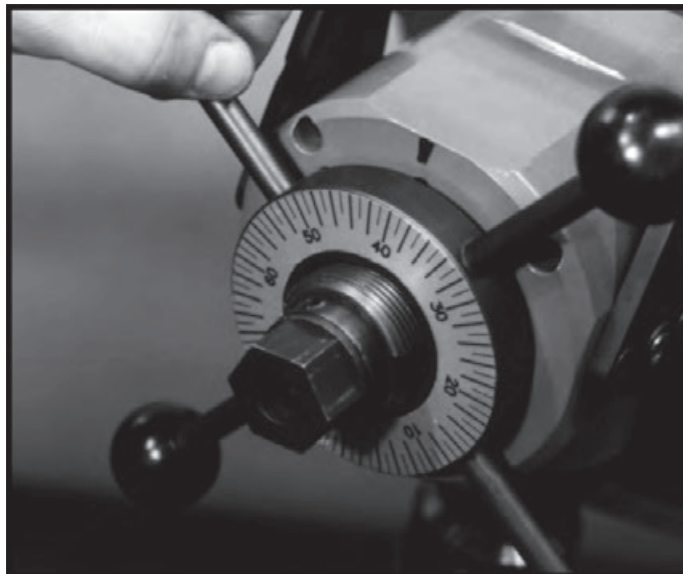

Figure 3-26.
19. Using the infeed indice gauge, rotate the axial feed handles clockwise until the desired depth of cut is attained. (Figure 3-26)